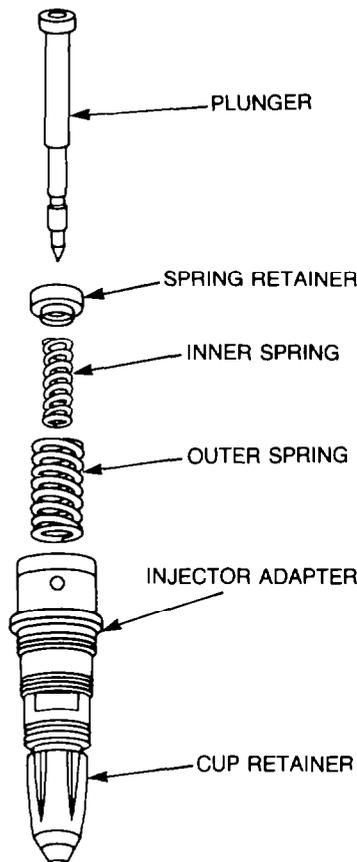

Figure 115 — Assembly of Injector for Top Stop Travel Adjustment
- i. Remove the plunger from the injector, then install the outer and inner compression springs, spring retainer and plunger into the injector adapter (see Fig. 115).